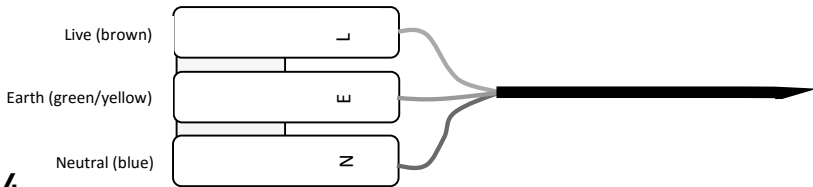

Fig 4
- Connect the Live (brown), Neutral (blue) and Earth (yellow and green) via the 3-way terminal connector (see Fig 4)
Note: This fitting can be linked to another fitting by using the 3-way terminal connector (see Fig 4) at the opposite end to the incoming power supply. There are knock-outs at both ends of the fitting which can be drilled using a 20mm holesaw. The IP65 rating will be maintained when a 20mm compression gland (supplied) is used in the drilled hole.